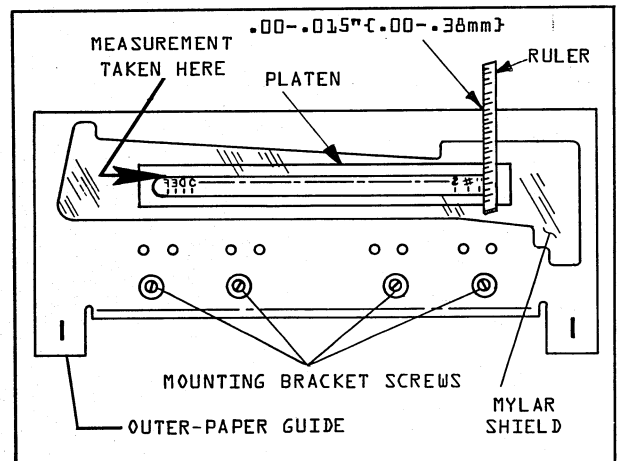

FIGURE 5-10. OUTER-PAPER GUIDE
7. Using a ruler, check that the distance between the slot's top edge and the top of the band character is 0.040 to 0.060 in. (1.0mm & 1.5mm). Refer to Figure 5-10.